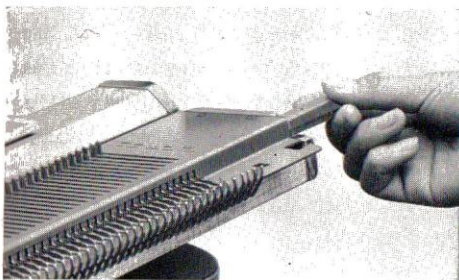

Fig. 2
- 2) Withdraw it by hand from the knitter until the needle you wish to change is freed. (See Fig. 2.)